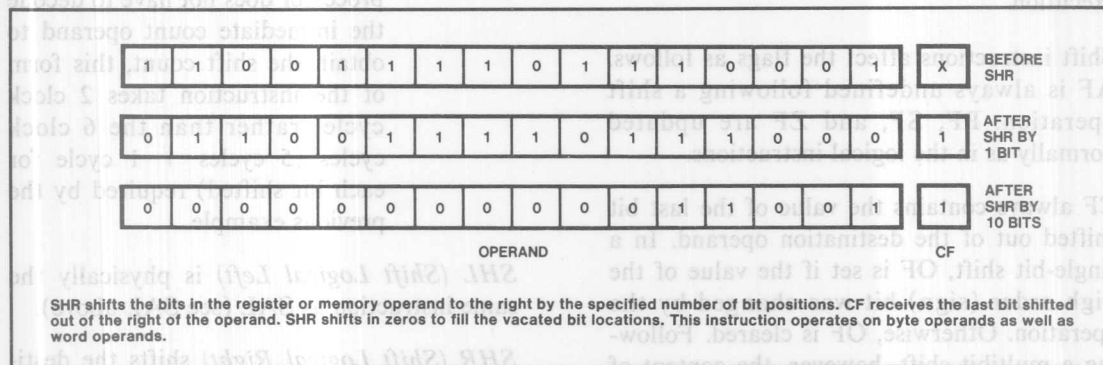

Figure 3-6. SHR
*SHR (Shift Logical Right)* shifts the destination byte or word operand right by one or by the number of bits specified in the count operand (an immediate value or the value contained in CL). The processor shifts zeros in from the left side of the operand as bits exit from the right side. See figure 3-6.